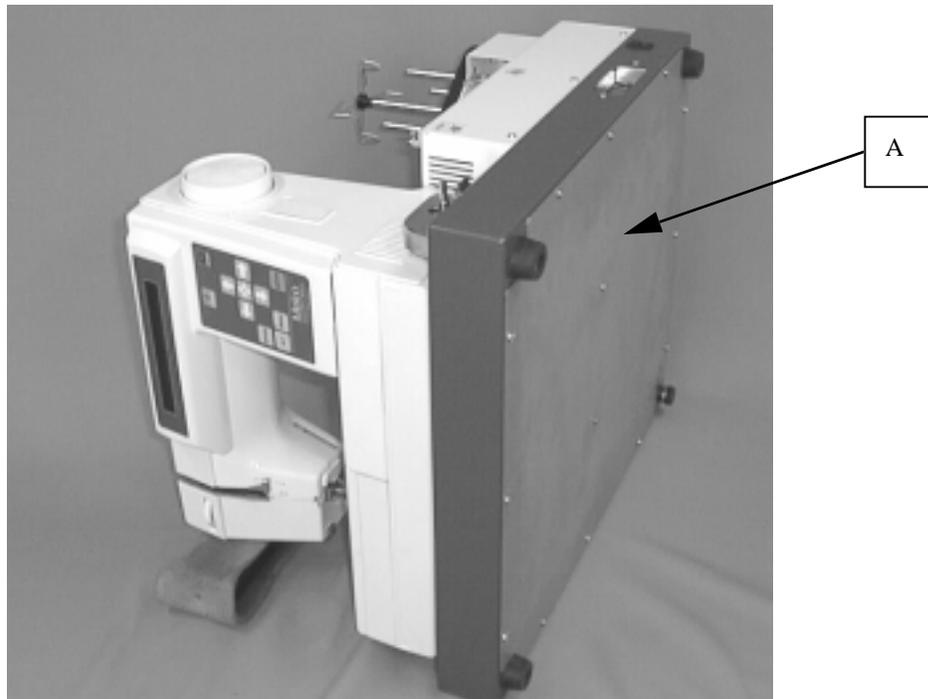

FIGURE 1-1
1. Lay the machine on its side, and insert thick books or the like below the machine as shown in Fig.1-1,1-2.
2. Set the machine by adjusting the height of the arm by using a hard book or the like so that baseplate (A) is almost perpendicular to the floor as shown in Fig.1-1,1-2.